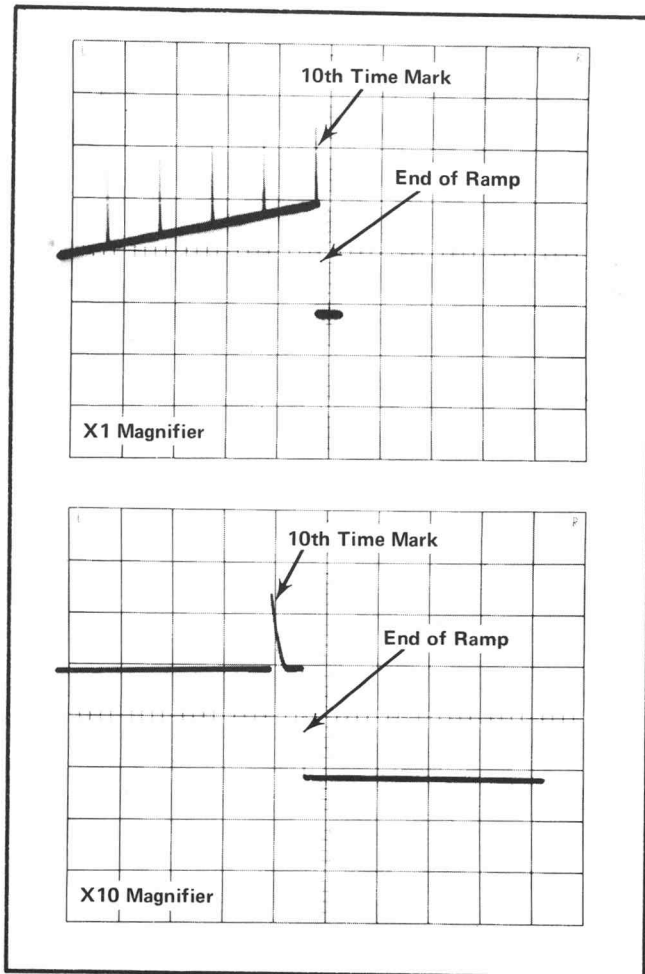

Fig. 5-1. Typical display of ramp and time marks for steps 13 and 14.
- Display Ramp and Marker outputs as shown in Fig. 5-1.
- Display ramp and markers as shown in Fig. 5-1.